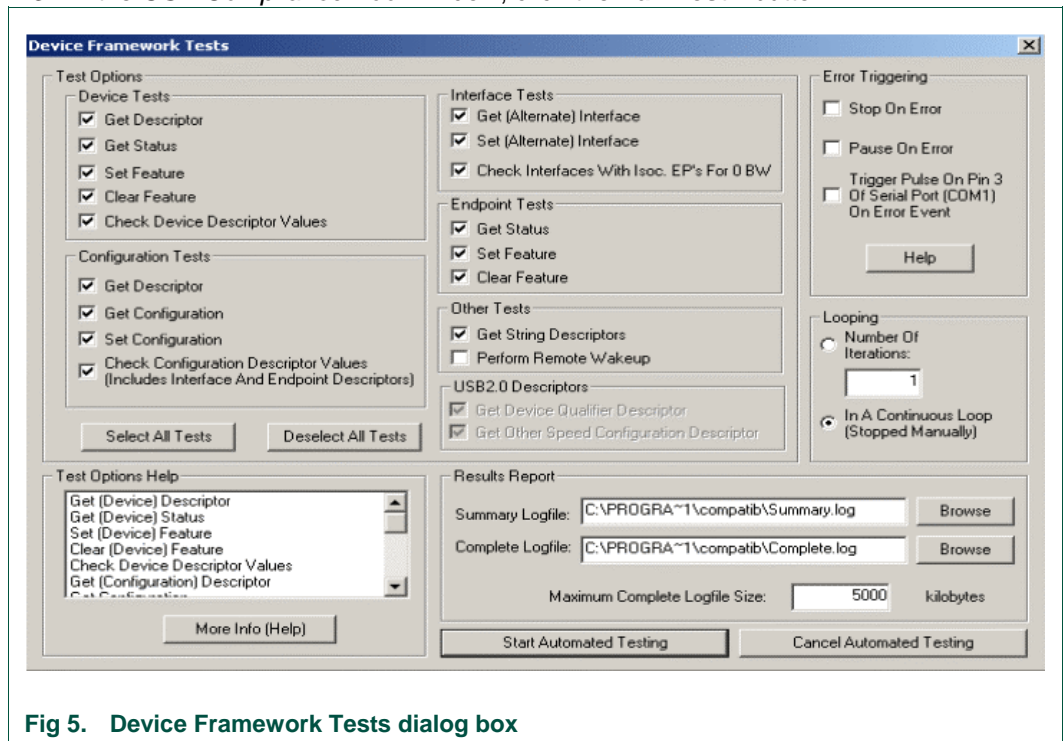

Fig 5. Device Framework Tests dialog box
4. In dialog box *Device Framework Tests*, as seen in Fig 5, deselect **Perform Remote Wakeup** and select **In A Continuous Loop**.